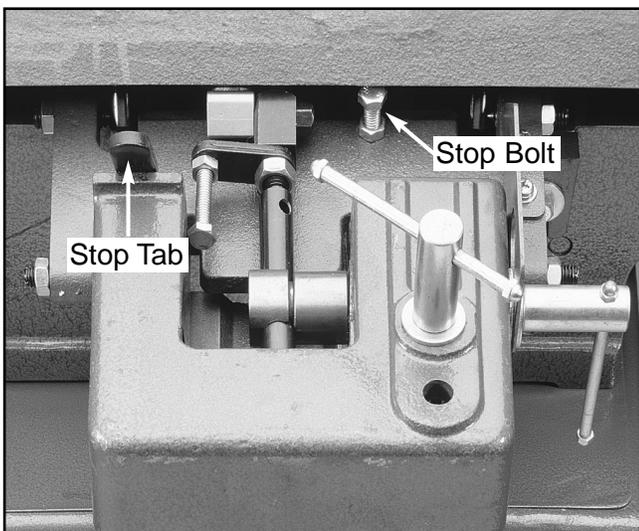

Figure 21. Location of Stop Bolt and Stop Tab.
1. Loosen checknut and lower fence until it rests on the stop bolt. See **Figure 21**.